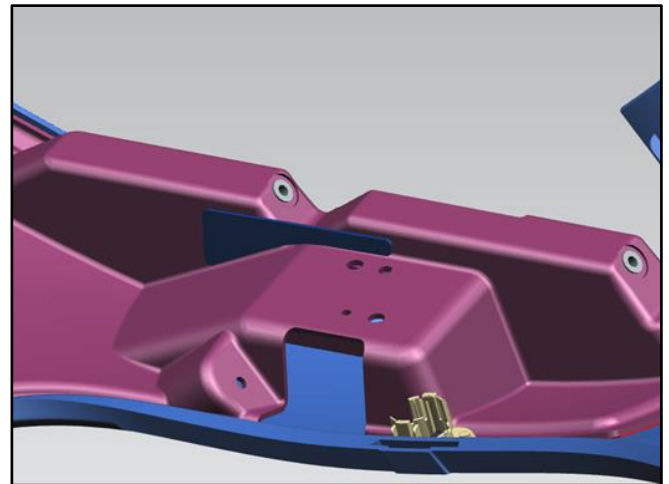

Figure 6
13. Attach the plastic part to the underside of the rear bumper. (Refer to Figure 6.)